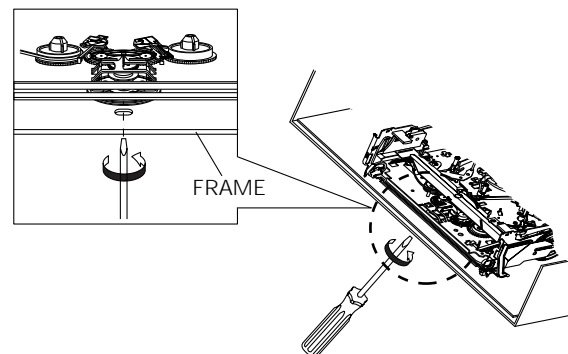

Fig. 4-33
3. As Sliders S and T are approached in the unloading position, rotate holder Clutch counterclockwise after inserting screw driver in the hole of frame's bottom (in order to wind the unwinded tape). (Refer to Fig. 4-33)